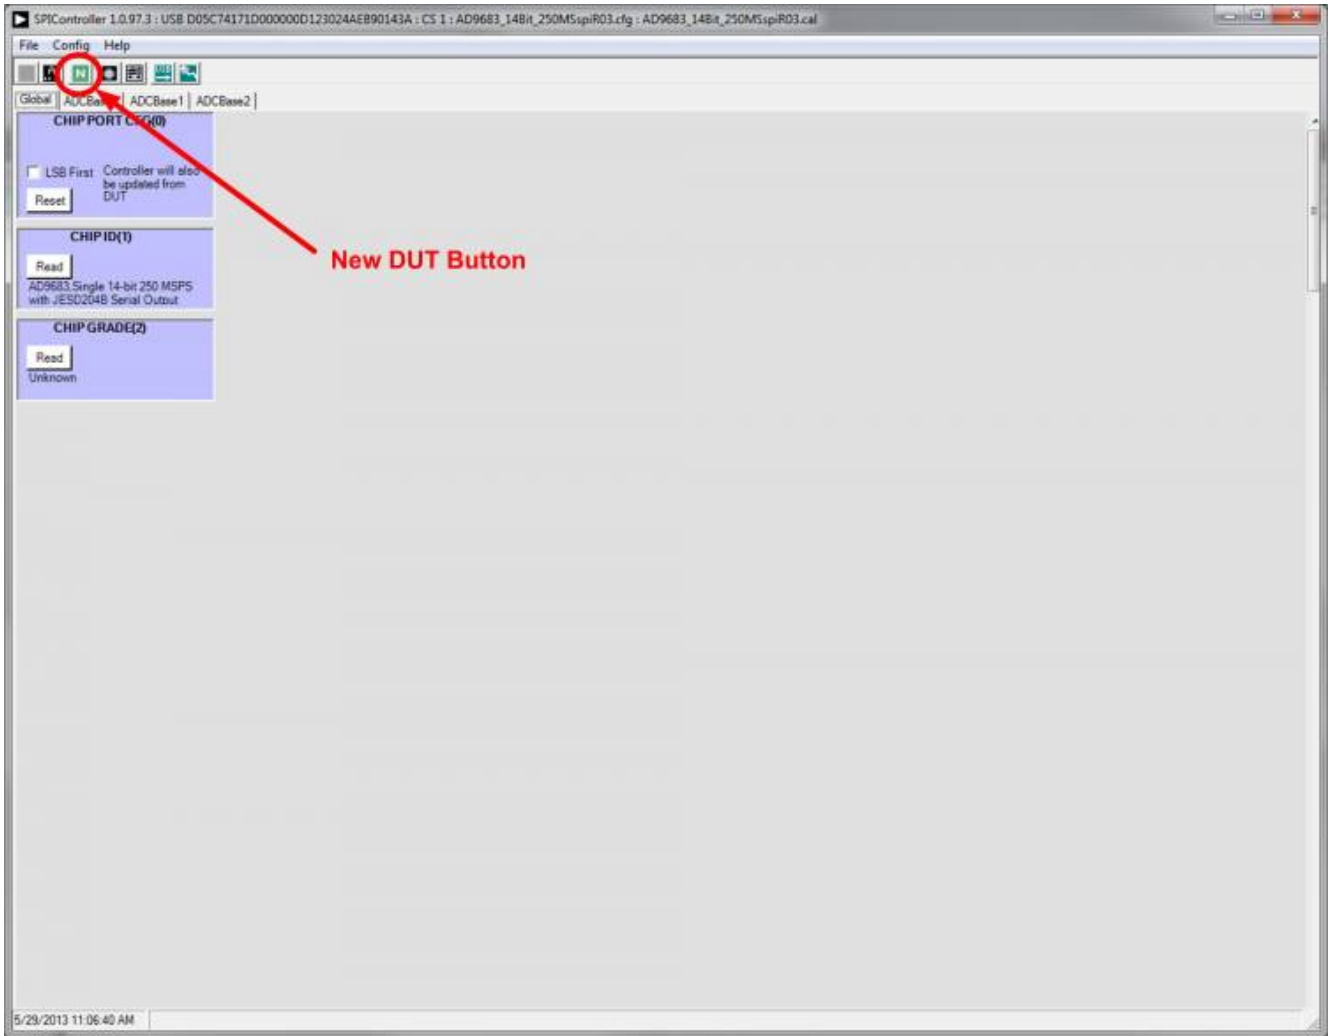

Figure 9. SPI Controller, New DUT Button
2. Click the **New DUT** button in the **SPIController** window (see Figure 9).